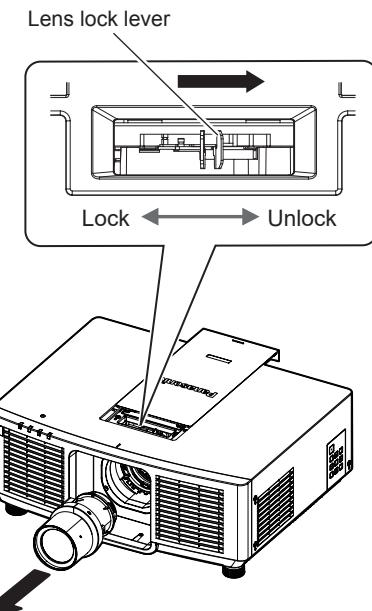

Fig. 2
- 2) **While holding the projection lens, pinch the lens lock lever and turn to the UNLOCK side. (Fig. 2)**